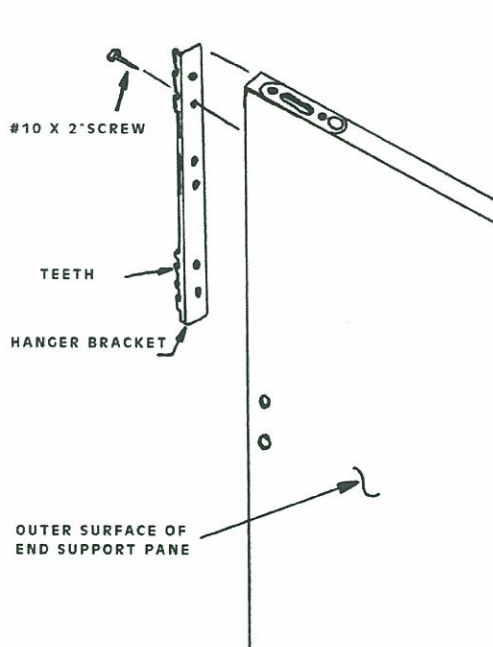

Figure 11
1. Assemble hanger bracket to support panel with bracket teeth along desired outer, or visible, surface of panel. Align top of hanger bracket flush with top edge of panel. Insert (5) # 10 x 2 " screw provided into pilot holes and tighten. **See Top of Figure 11.**